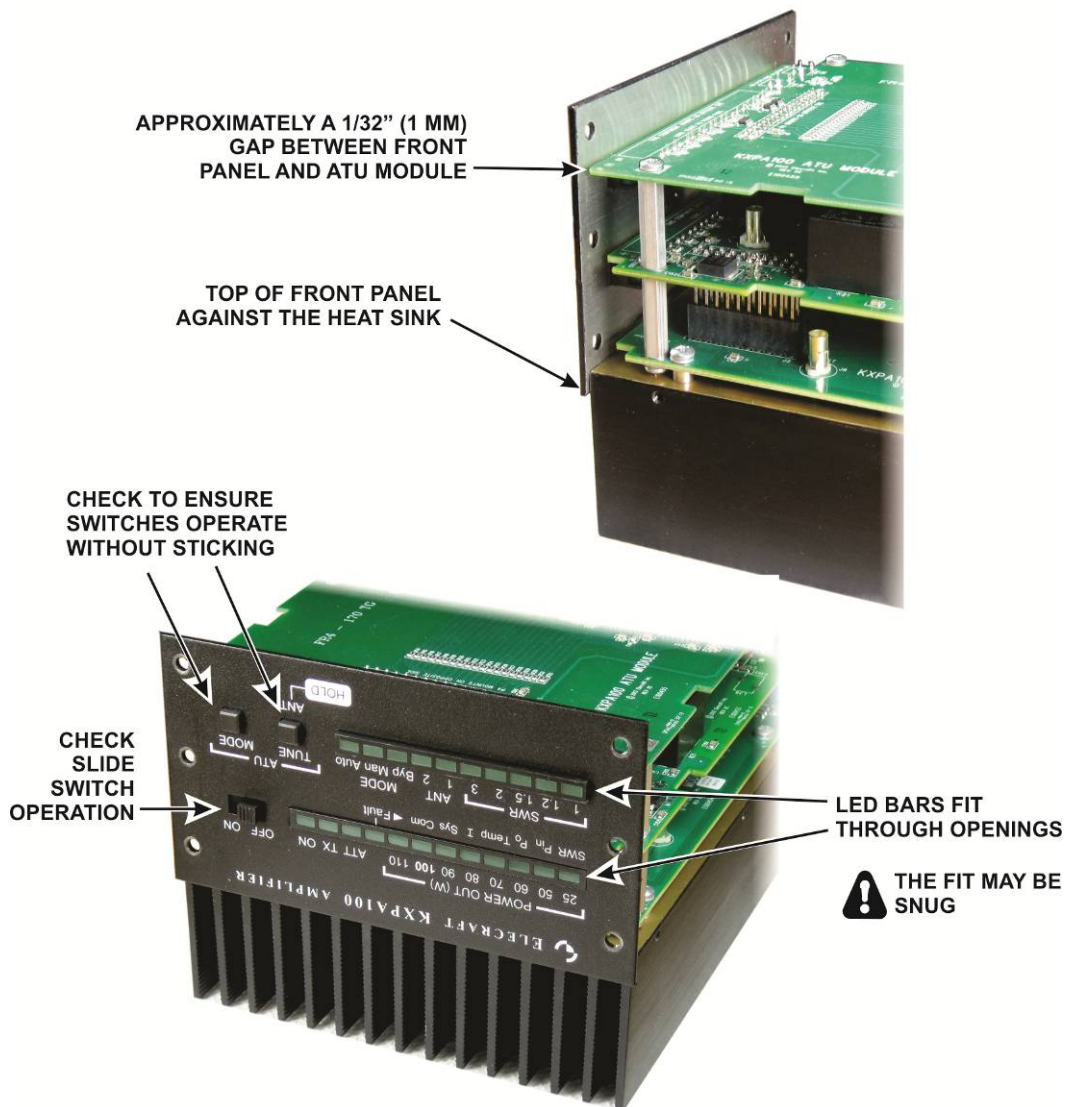

Figure 10. Testing Front Panel Fit.
- Unwrap the front panel, remove any tape on the reverse side just as you did for the rear panel (see Figure 3) and place it over the LEDs and switches as shown in Figure 10. The fit may be snug, but both rows of LEDs must fit in the openings:
⚠ Add the lock washer as shown below only if the front panel does not fit as shown in Figure 10.